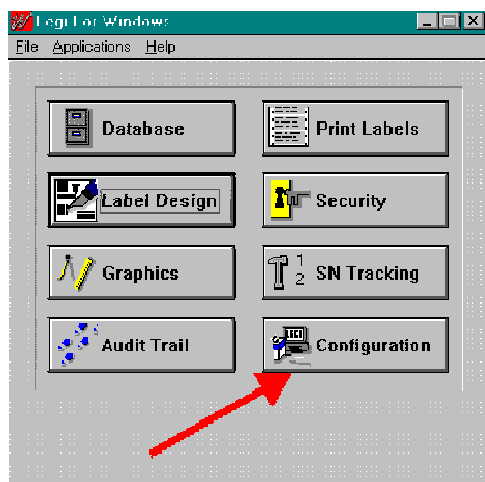

Figure 5a
7. Return to the LegiWin Main Menu and click Configuration. Then select Printers from the Configuration Menu. (Figure 5a, b)